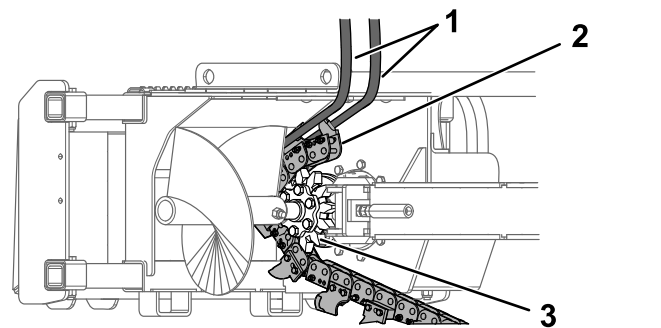

Figure 18
2. Connect the ends of the lifting strap to the lifting equipment, and raise the end of the chain until the drive pins engage the drive sprocket (Figure 18).